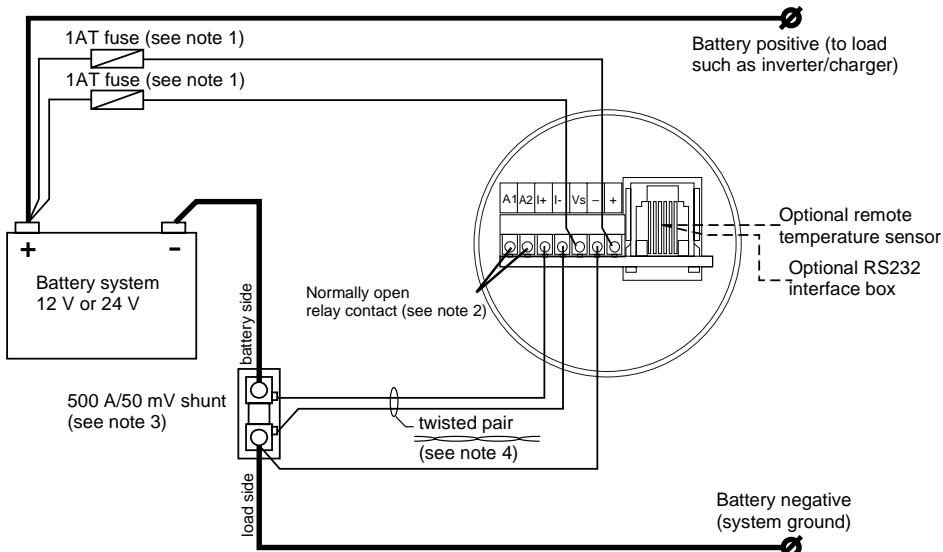

Figure 1 Wiring Diagram
3. Connect the battery monitor to the battery system. **Make absolutely sure that the two 1 amp fuses are removed from the inline fuseholders before connecting the wires to the battery.** Please follow the wiring diagram (Figure 1) and the corresponding notes very carefully. Improper connection may cause battery monitor malfunctioning and/or fire hazards. The thick lines in the wiring diagram represent the main current path cables. These cables must be of a heavy duty type able to carry full load current drawn from the battery. The five wires going to the battery monitor unit can be connected to shunt and battery using universal crimp terminals.